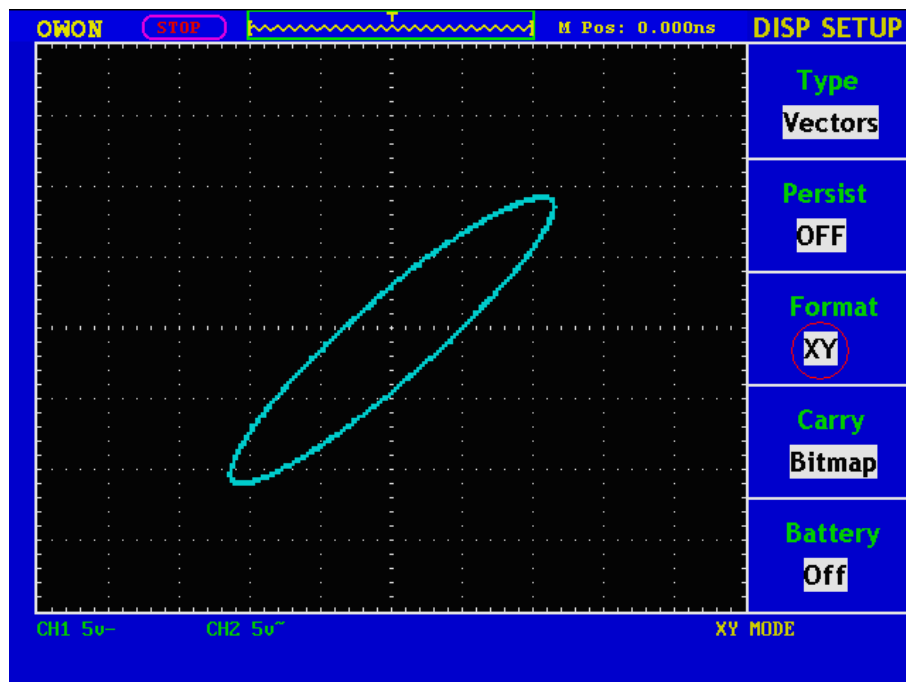

Fig.5-35 XY Display Mode
2. Press the **F3** menu selection button and choose the form as XY. The display format is changed to be XY mode (see **Fig.5-35**).